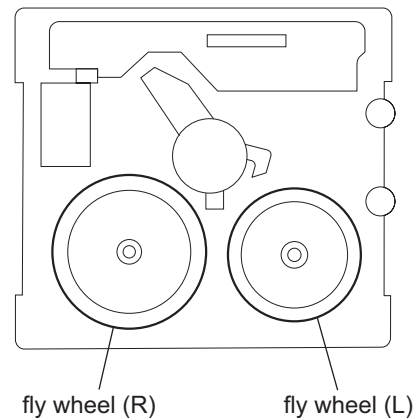

Fig.8
2.2.5 Removing the flywheel (See Fig.8 and 9)